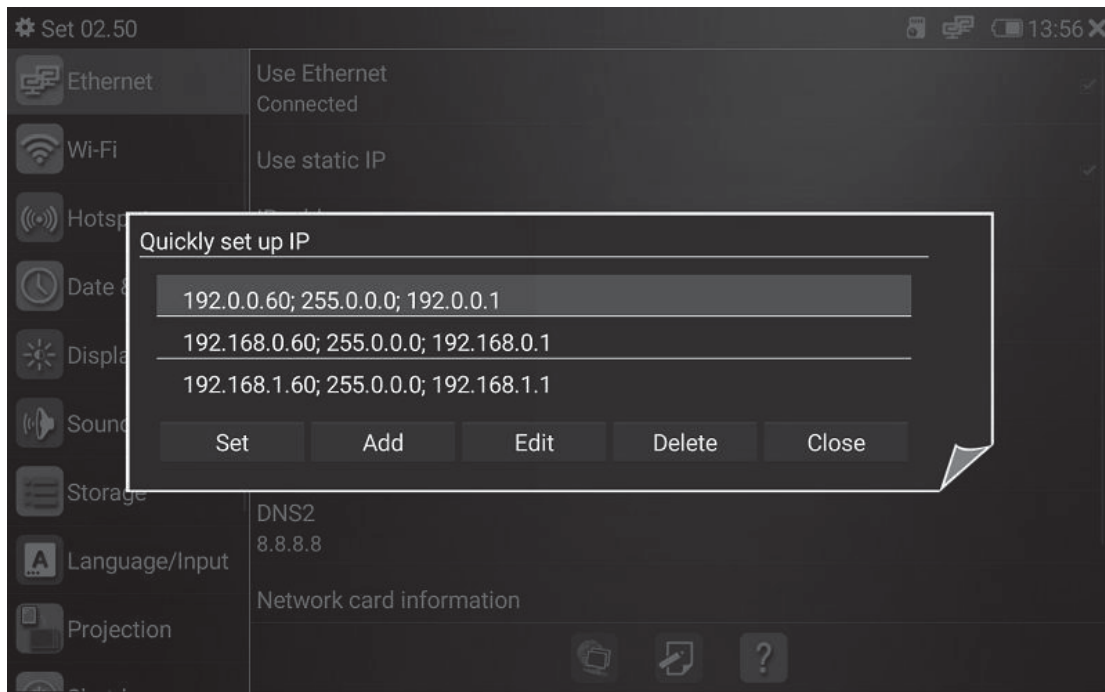

Figure 41
3. Touch the icon  in the bottom to set IP quickly, rapid IP setting enables you to add, edit and delete common used IP, touch the icon  in the bottom to restore default network settings, as shown in Figure41